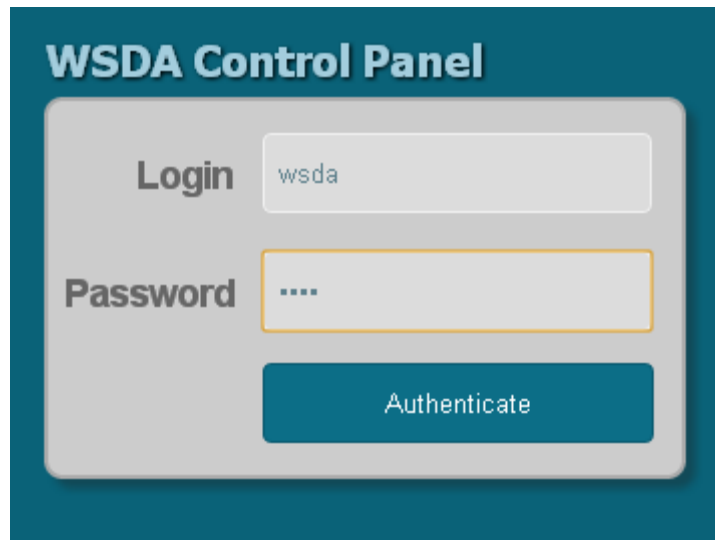

Figure 3. WSDA[®]-1000 Control Panel Login window
5. Enter your WSDA[®]-1000 Control Panel login credentials, as shown in **Figure 3**.